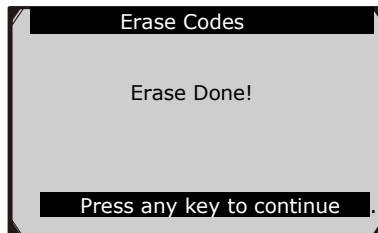

Figure 6.8
- If the codes are cleared successfully, an “Erase Done!” confirmation message shows on the display. (Figure 6.8)